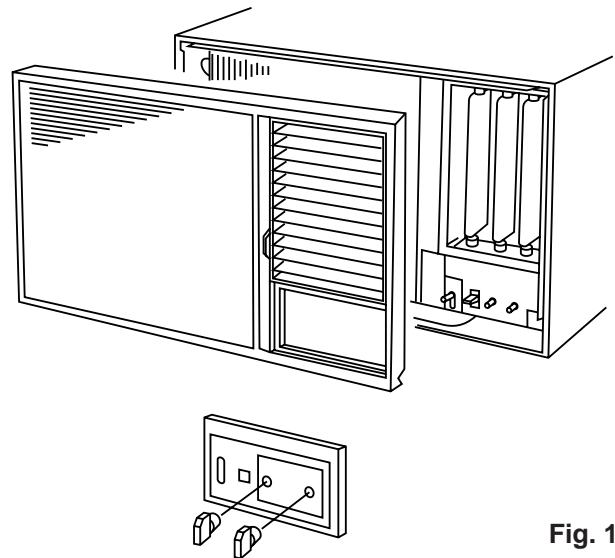

Fig. 18
- (2) To remove the control panel, pull out the knobs on front of the panel. (Fig. 18).